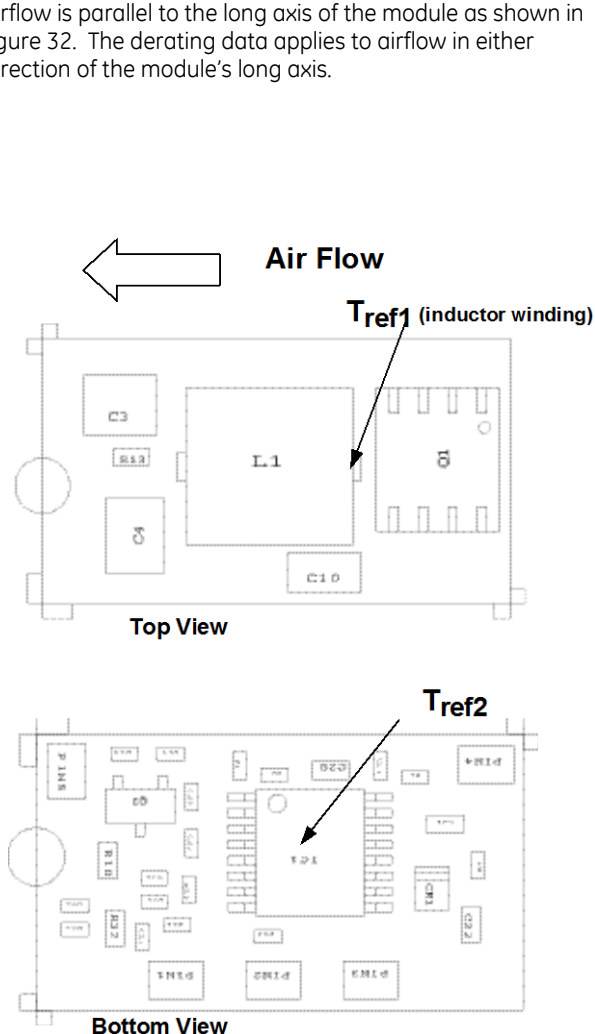
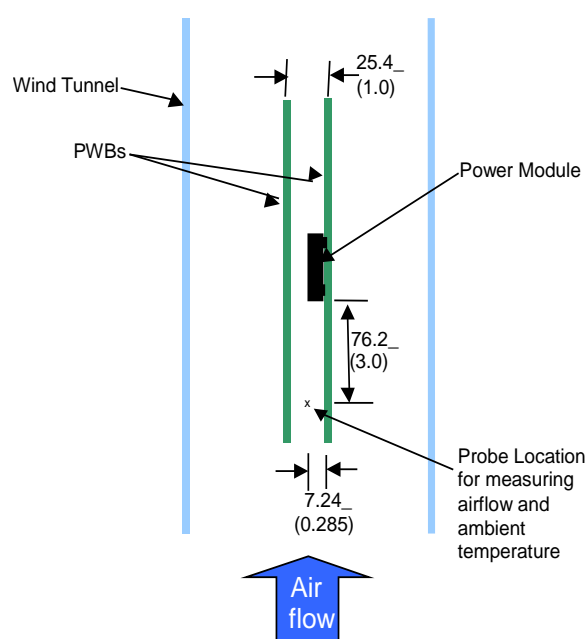

Figure 32. T_{ref} Temperature measurement location.
Figure 33. Thermal Test Set-up.
To provide over temperature protection in a fault condition, the unit relies upon the thermal protection feature of the controller IC. The unit will shutdown if the thermal reference point T_{ref2} , (see Figure 33) exceeds 140°C (typical), but the thermal shutdown is not intended as a guarantee that the unit will survive temperatures beyond its rating. The module will automatically restarts after it cools down.
Considerations include ambient temperature, airflow, module power dissipation, and the need for increased reliability. A reduction in the operating temperature of the module will result in an increase in reliability. The thermal data presented here is based on physical measurements taken in a wind tunnel. The test set-up is shown in Figure 33. Note that the airflow is parallel to the long axis of the module as shown in figure 32. The derating data applies to airflow in either direction of the module's long axis.
The thermal reference point, T_{ref1} used in the specifications of thermal derating curves is shown in Figure 32. For reliable operation this temperature should not exceed 125°C.